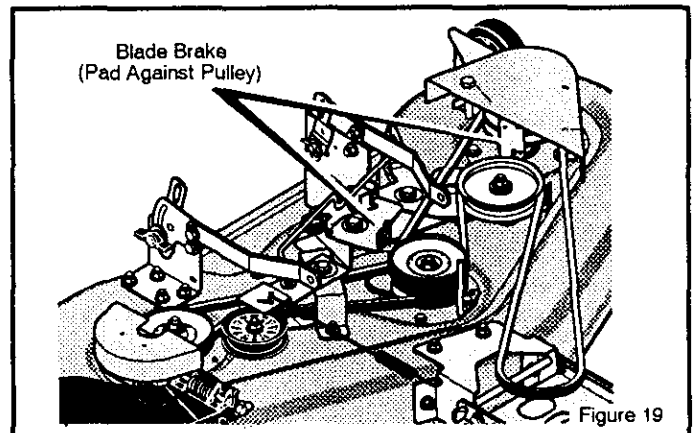

Figure 19
8. Move the blade rotation control to the DISENGAGE position. Stop the engine. Disconnect the wire from the spark plug. Check the operation of the blade brake. Rotate the pulleys with your hand. Make sure the brake pads are pressed tightly against the pulleys (Figure 19).